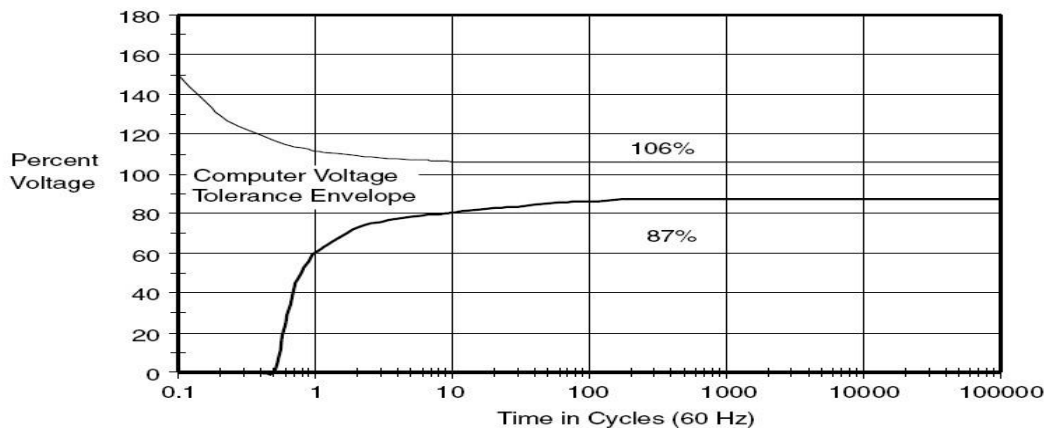

Fig 1.5 A portion of the CBEMA curve commonly used as a design target
- Fig 1.5 shows CBEMA curve. This curve is one of the most frequently employed displays of data to represent the power quality is the so-called CBEMA curve.